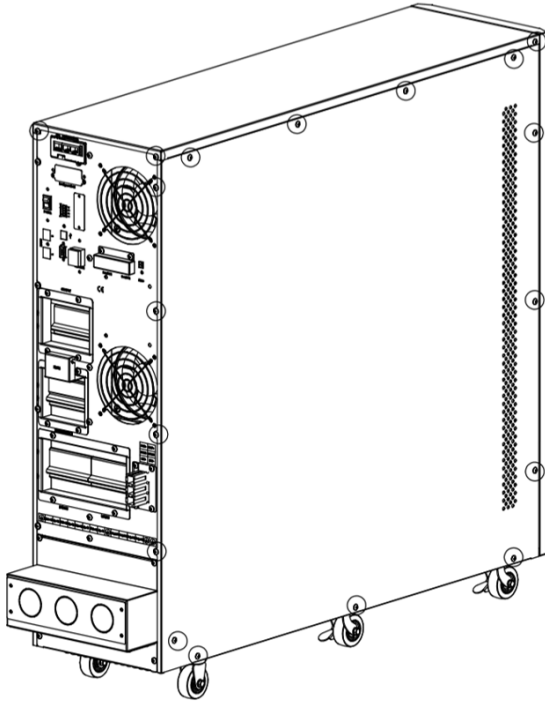

Figure 3-6: Remove screws from top, right and left plates.
1. Remove the screws circled in Figure 3-6.